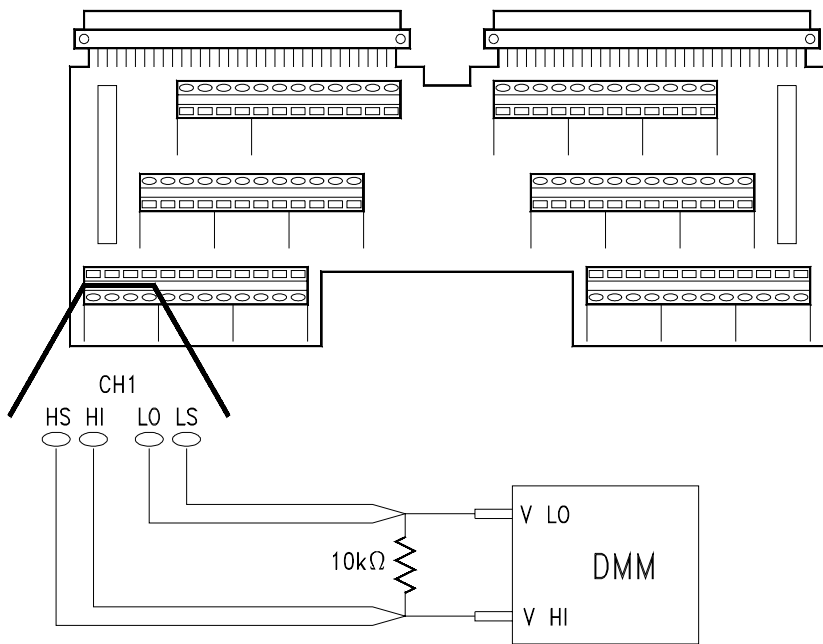

Figure 4-1. DC Voltage Output Connections (Channel 1)
1. For each channel in the module, connect the 10 k Ω resistor and DMM as shown in Figure 4-1. Channel 1 connections are shown in the figure. Connect the other channels in a similar manner. Set the DMM to measure dc volts.